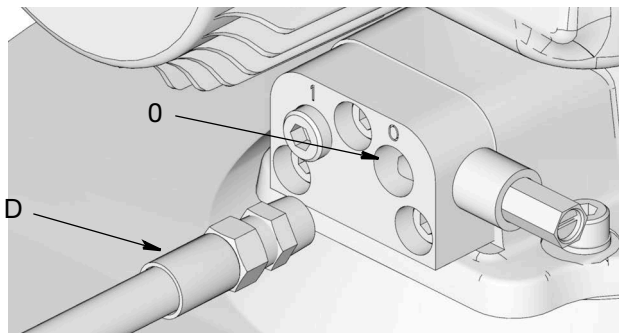

FIG. 53: Lubricant Outlet Connection
28. Connect the timer/controller (F) (user supplied, if used).
29. Connect the high pressure lubricant supply line (D) to the lubricant output connection (O) (FIG. 53) on the vent valve or manifold.